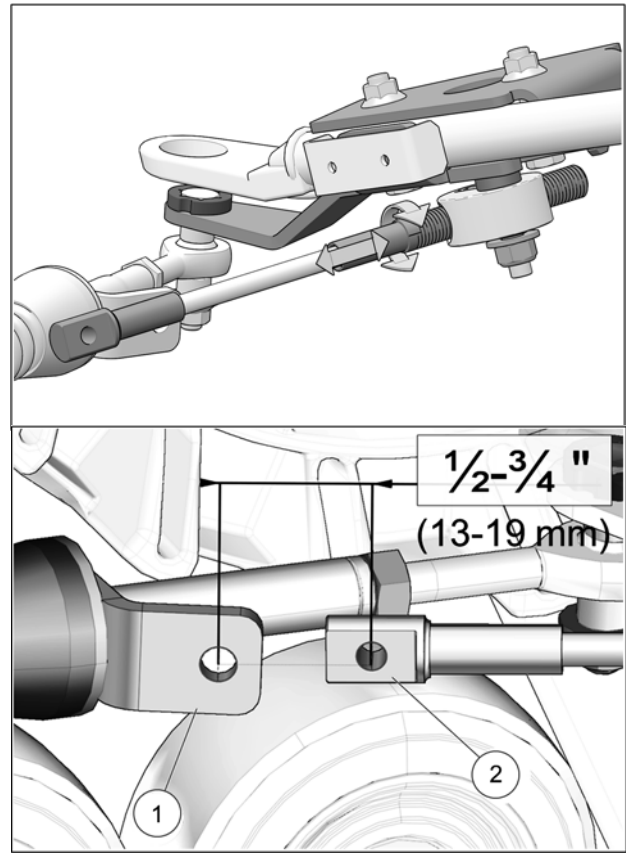

Fig. 22
12. Turn the vehicle's steering wheel to its maximum point of travel on the left. While maintaining pressure on the steering wheel, turn threaded rod to adjust length of cable so that the cable end hole (1) is located 13 to 19 mm [$\frac{1}{2}$ to $\frac{3}{4}$ in.] short of the mounting hole on the support plate (2). See Fig. 22